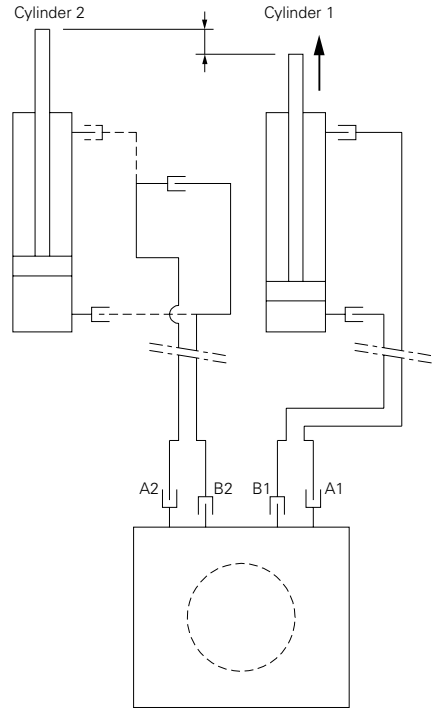

Fig. 60: Extending the cylinders to the same height
3. Extend the remaining Cylinder 1. (Fig. 60)